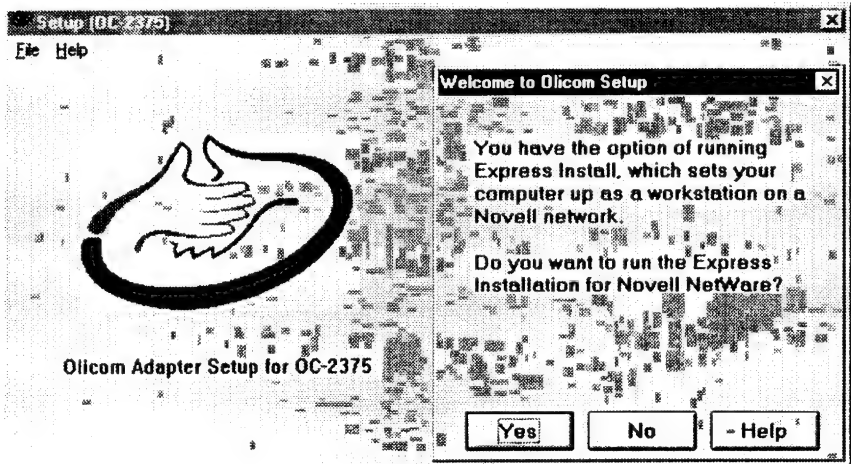

Figure 3. Do you want to proceed ?
3. You are asked if you want to proceed with an Express Installation as shown in figure 3 (here for OC-2375 ISA 10/100 Adapter). Select the "Yes" button to proceed with the Express Installation. (Use the mouse or press Enter).